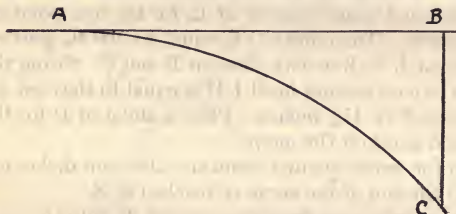

FIG. 26.
3. In Fig. 26, A B, represents a tangent, and start-